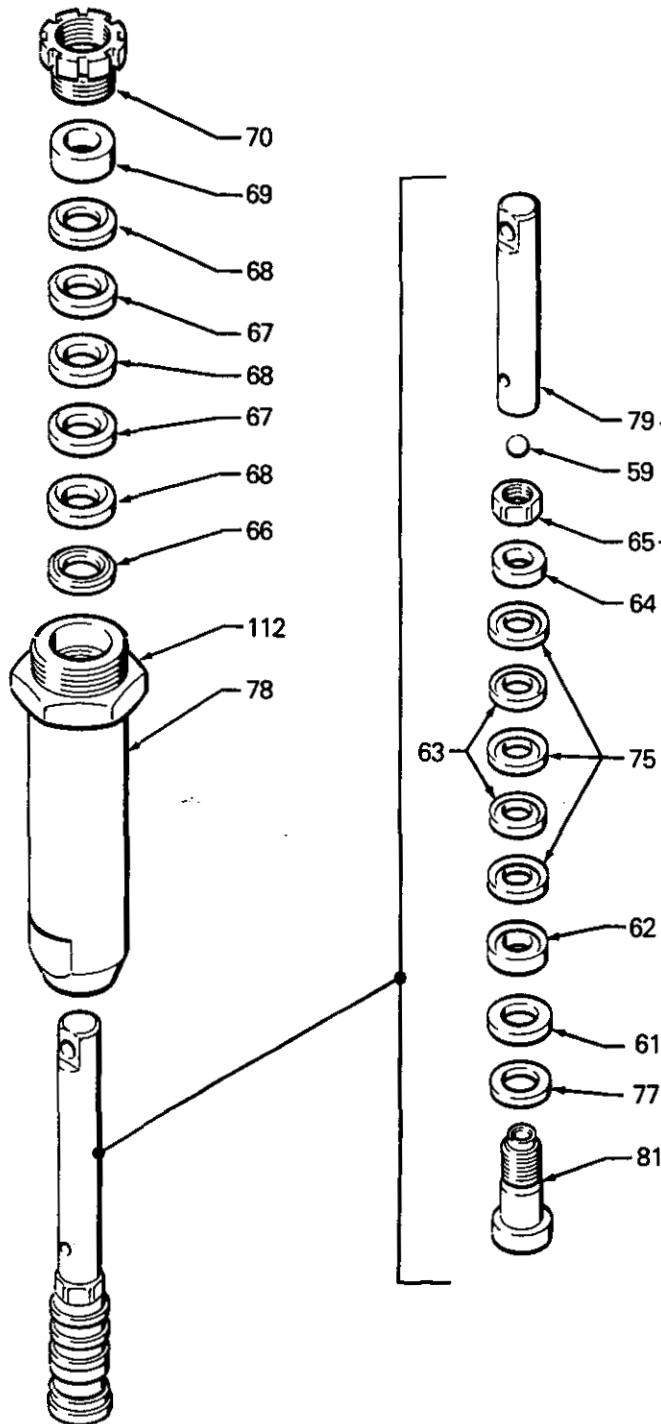
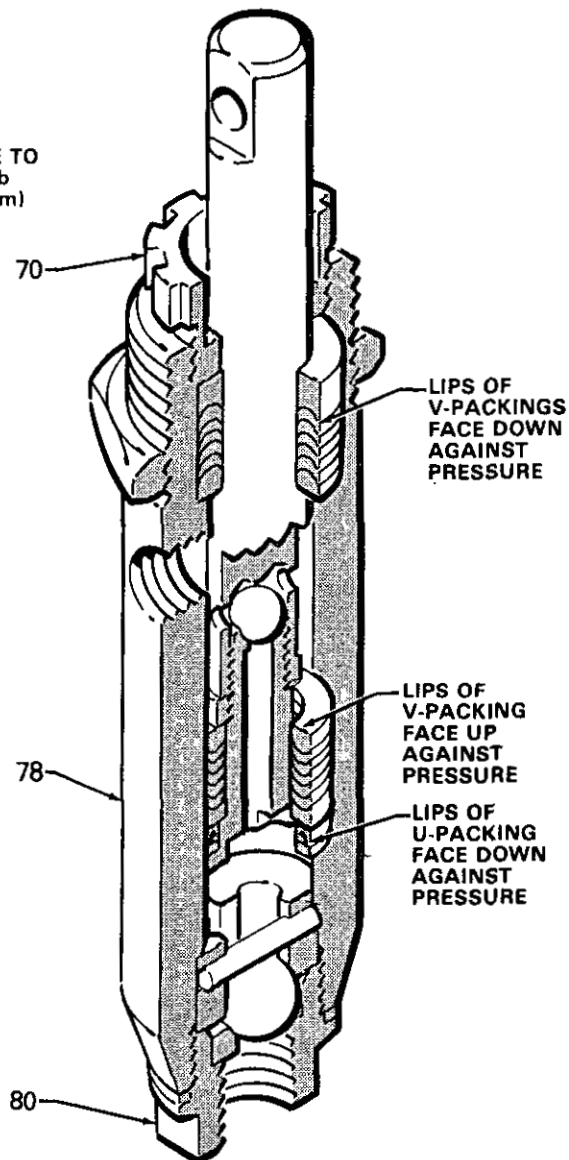

Fig 16
Fig 17
Unscrew and remove packing nut (70). Using a rubber mallet, tap piston rod (79) down and pull out through bottom of cylinder (78). See Figures 16 and 17.
When reassembling piston, install new glands and packings in correct order, alternating leather and plastic packings. See Fig 16. The lips of the V-packings must face up against fluid pressure. See Fig 17. Tighten the nut (65) to 10.5 in-lb (1.2 N·m) to seat the packings, *then back off the nut and hand tighten it.*
Install throat packings, glands and packing nut, leaving packing nut loose. The lips of the V-packings must face down against fluid pressure. Alternate plastic packings (68) and leather packings (67) in order shown in Fig 16.